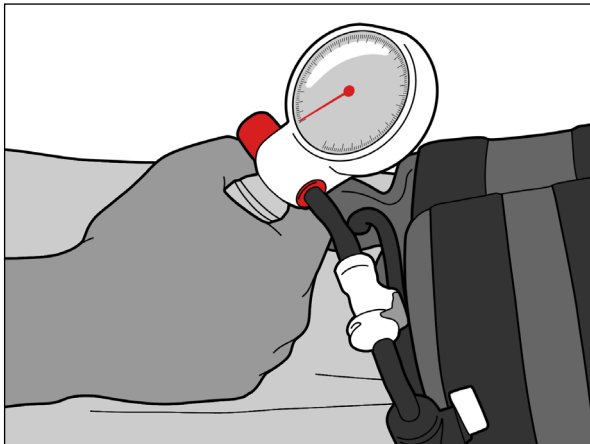

Fig. 16
3. Inflate the bladder to desired pressure by squeezing the bulb repeatedly (Fig. 16).